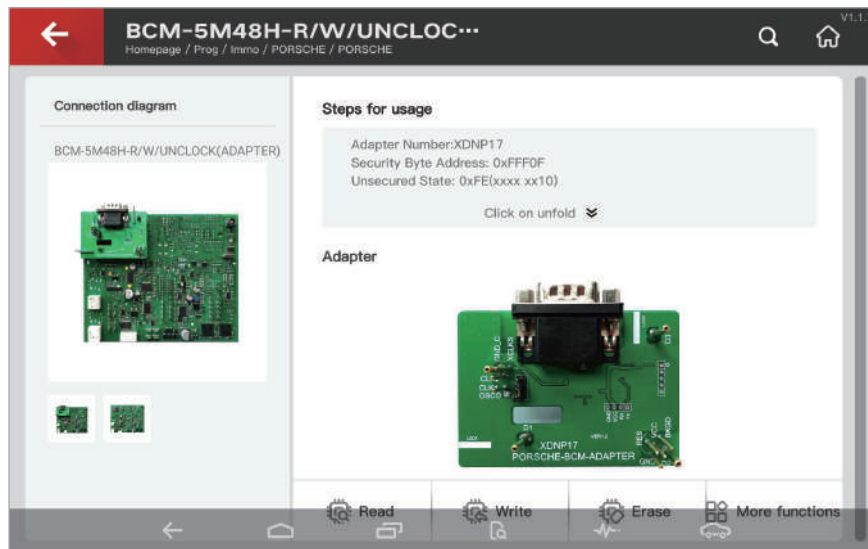

Fig.7.5.1
① Connect the device to Porsche BCM adapter(Optional), then clip the adaptor to Porsche BCM module as shown in Fig. 7.5.1.